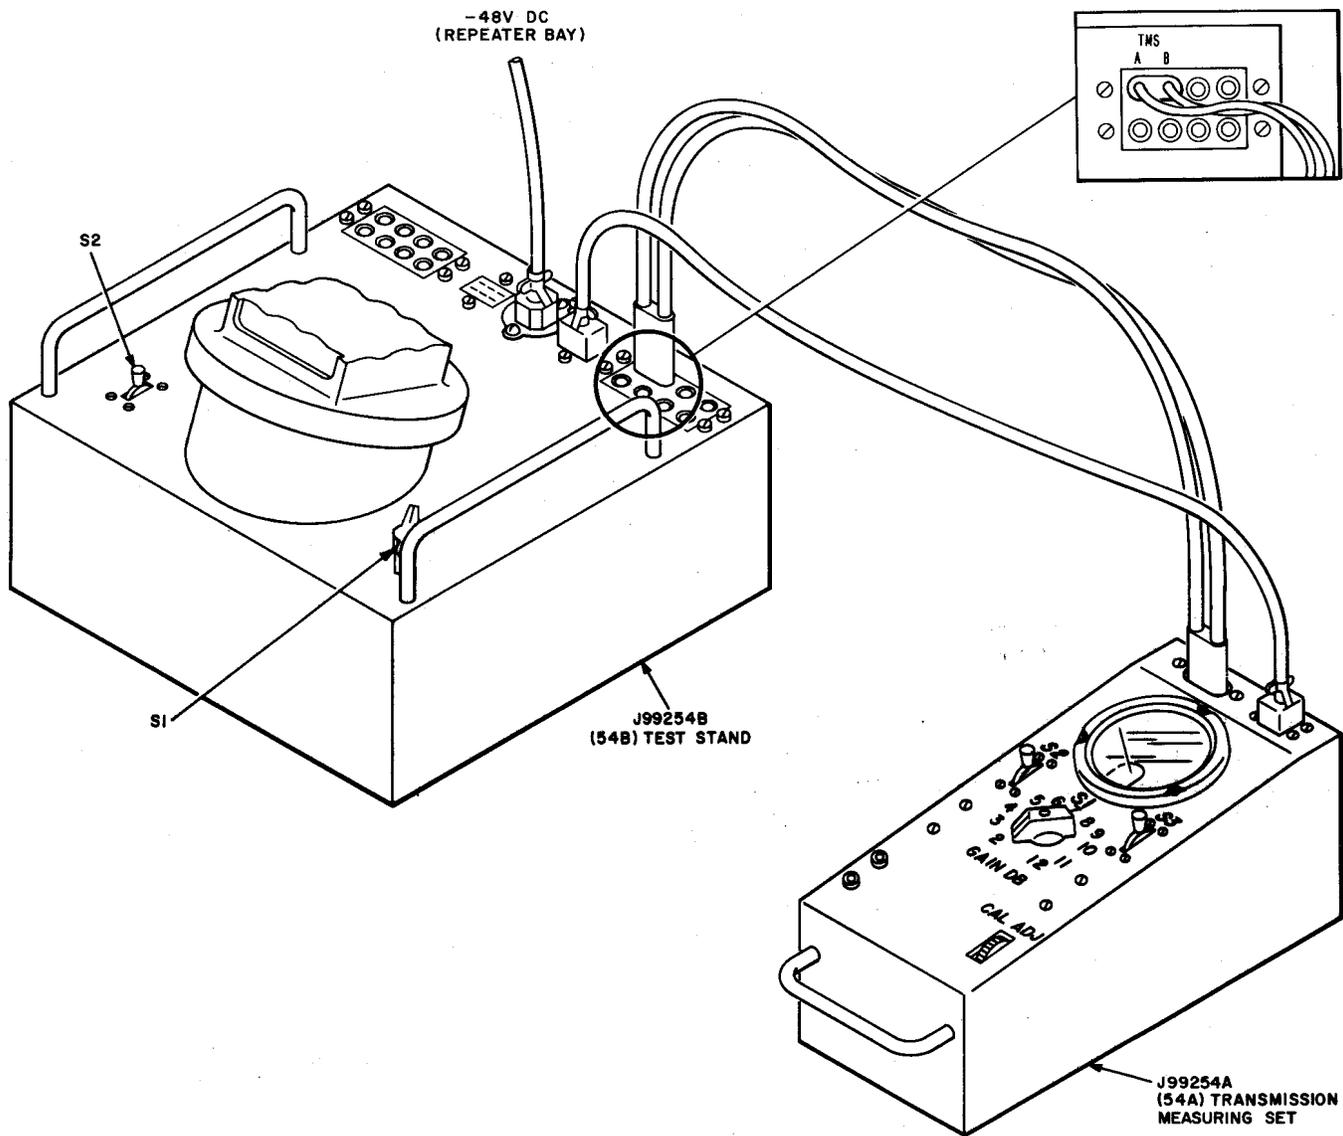

Fig. 1—Converter Gain—Test Equipment Connections
- 5 Connect -48 volt power to the 54B test stand and connect the test stand to the 54A TMS, as shown in Fig. 1.